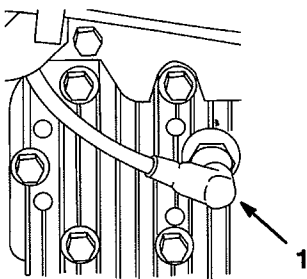

Figure 12
1. Stop engine and pull wire off spark plug (Fig. 12).
1. Stop engine and wait for engine to cool. Pull wire off spark plug (Fig. 12).